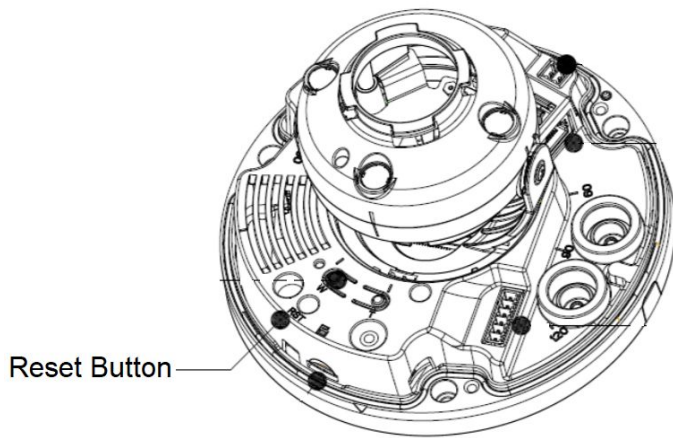

Figure 2-4
Step 3 Slightly press the RESET button to complete the reset function. See Figure 2-4. The camera will reboot when the reset process is complete.